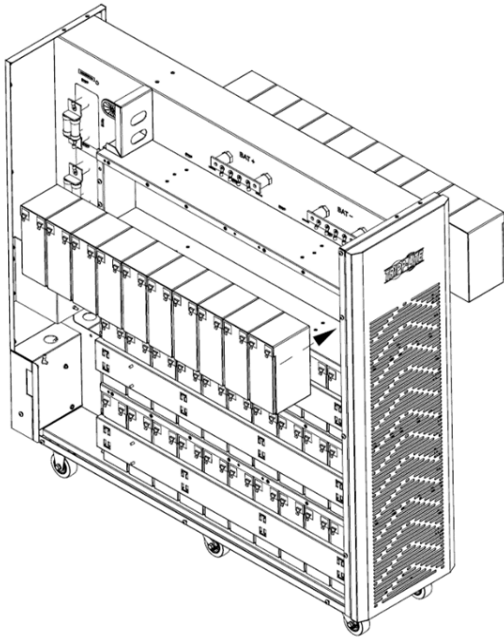

Figure 5-12A
14. Install 10 battery packs in the next layer (L4-A, group 4 positive string). Be sure to keep terminal sides of all batteries up (Figure 5-12A).